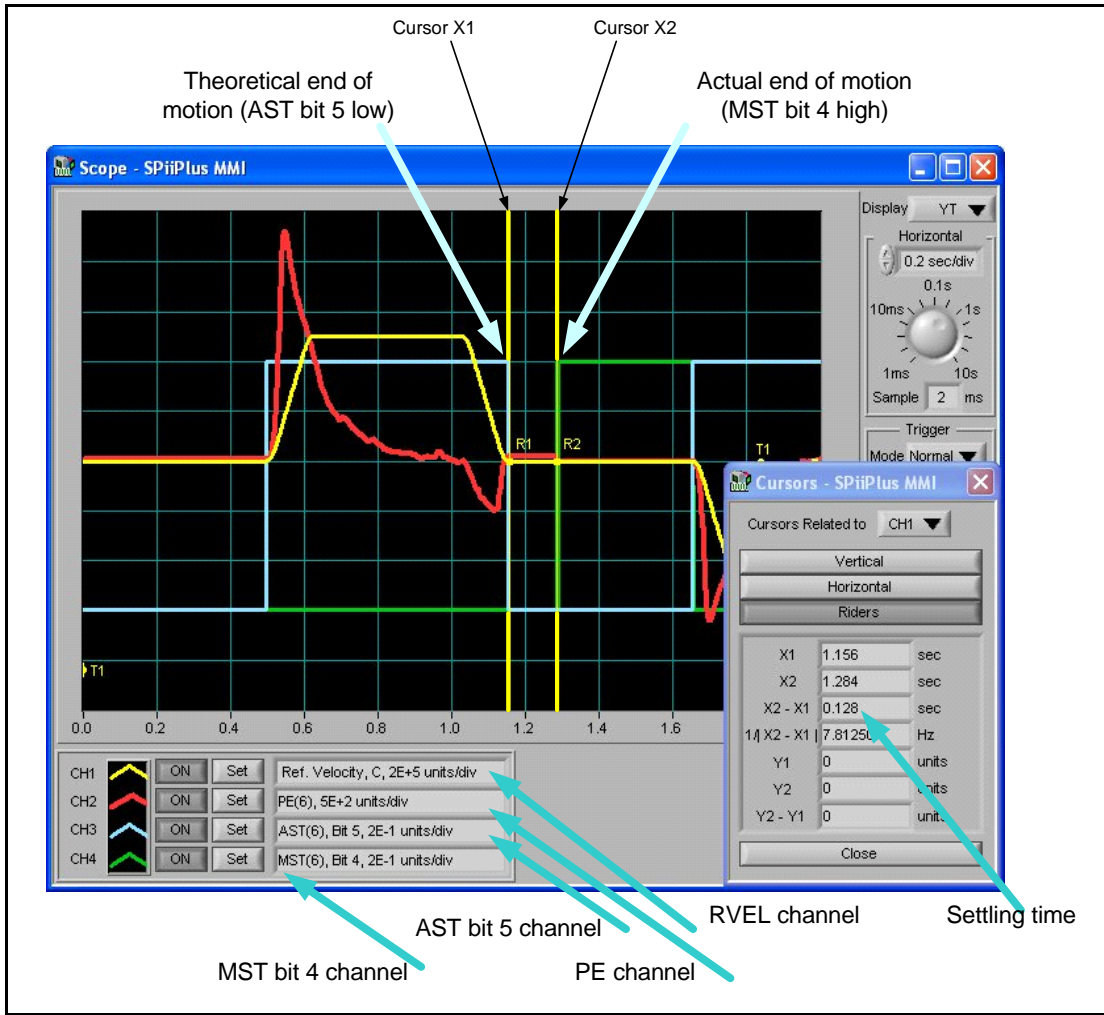

Figure 54 Measuring Settling Time (Piezoceramic Motor Example)
2. Open **SPiiPlus MMI** → **Scope**. Figure 54 depicts a Scope configured to measure settling time for a Nanomotion piezoceramic motor.